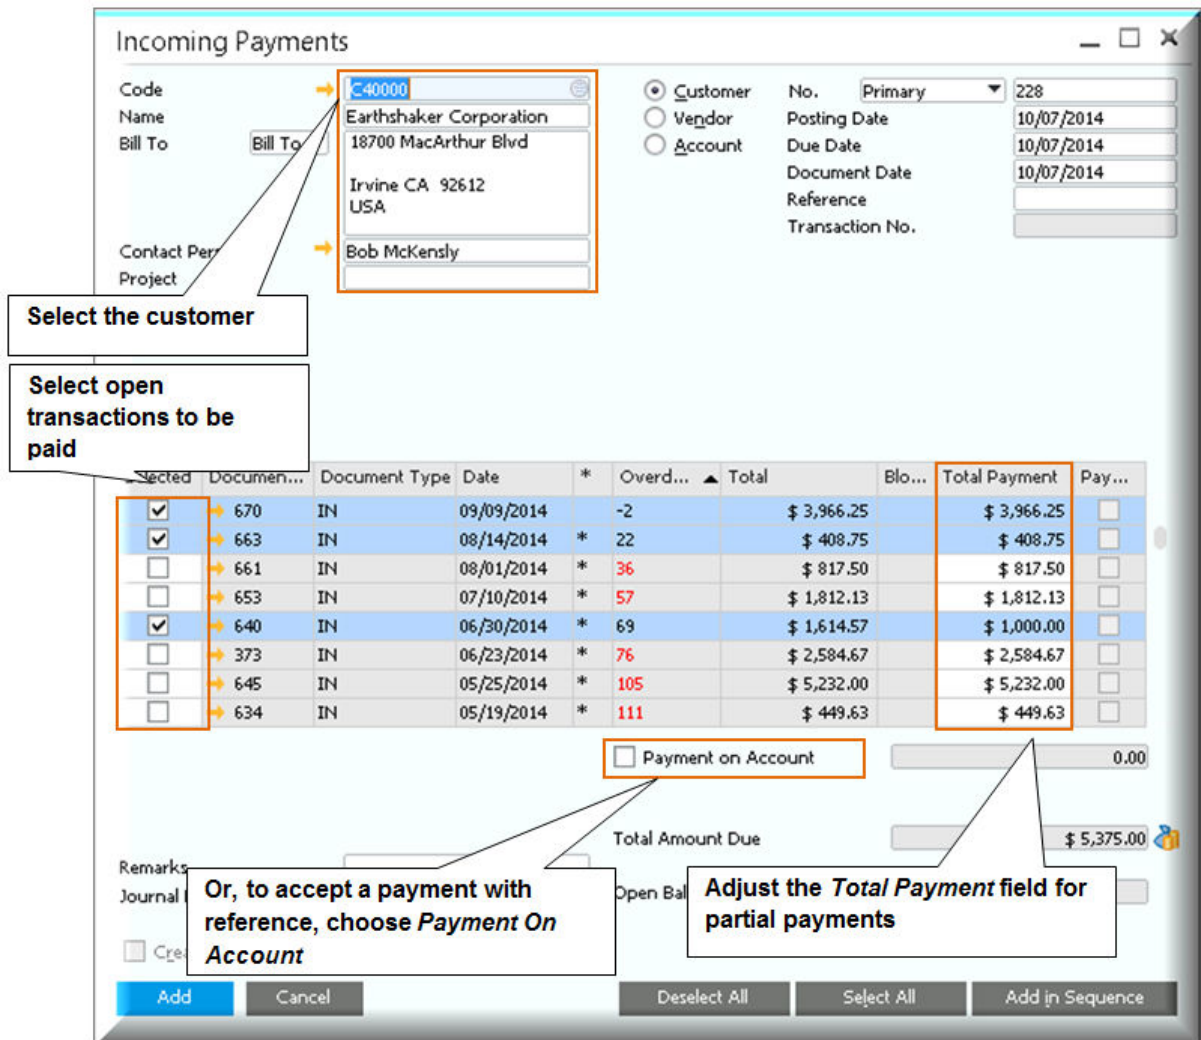

Figure 3-12: *Incoming Payments* window
- 1) Go to the *Banking* → *Incoming Payments* → *Incoming Payments* window shown in Figure 3-12